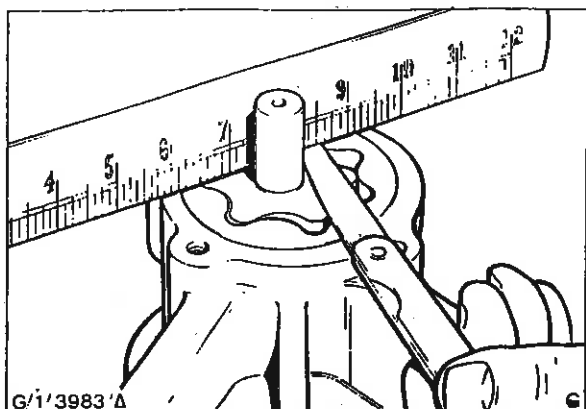
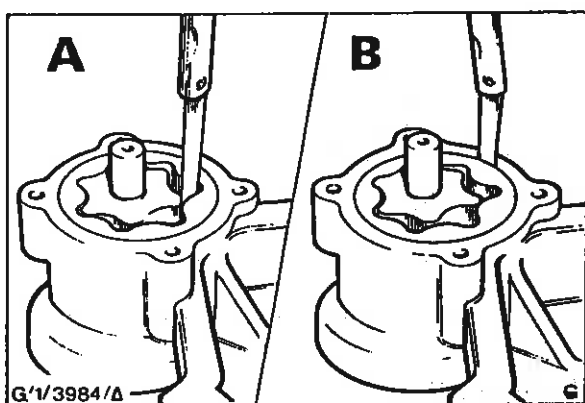

Fig. 12 - Measure Pump Rotor End Float
Fig. 13 - Measuring Rotor Lobe/Body Clearance
6. As shown in Fig. 12, place a straight edge across the pump face and measure the clearance to the face of the inner rotor (rotor end float). Refit the outer rotor and measure the clearance between the outer rotor and the pump body, and between the rotor lobes (Fig. 13). If the clearances are not within the specified limits the rotors should be renewed.